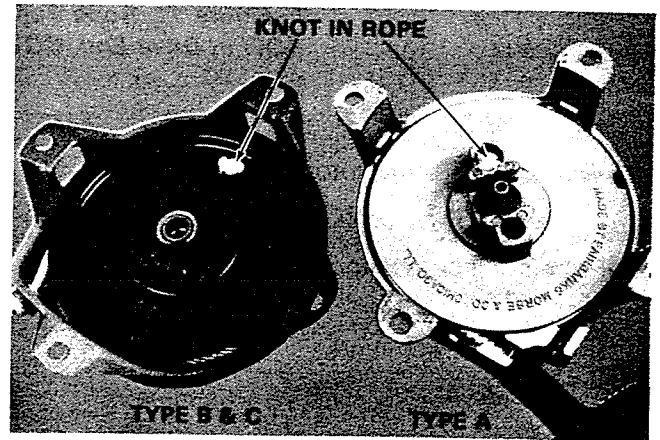

Figure 10. Starter Rope Knot Position.
1. Tie knot in one end of starter rope, thread other end of rope through hole in rotor until knot is seated firmly in hole. Figure 10.